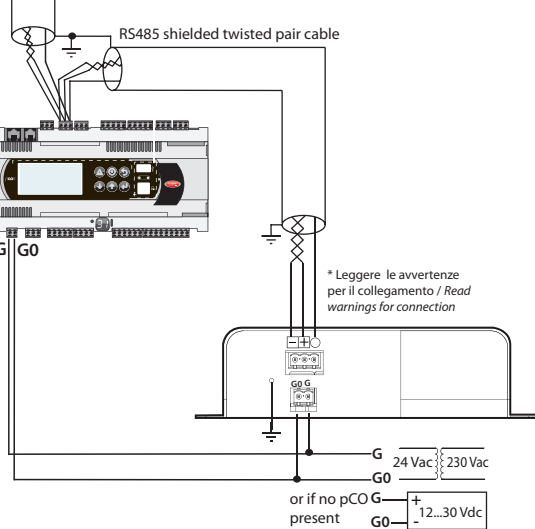

Fig. 6
- **ATTENTION:** For the electrical connection, maintain the polarity indicated in Fig. 6 and on the connector included in the box;